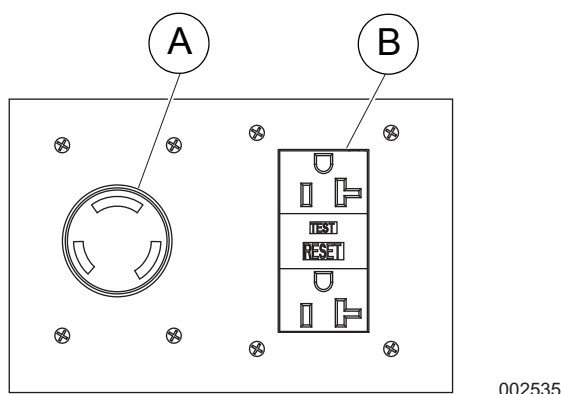

Figure 3-6. Convenience Outlets
See Figure 3-6. The unit is equipped with convenience outlets for powering accessories or tools from the generator. Power is supplied to the outlets any time the engine is running and the 240VAC outlet breaker is switched to the ON (I) position. Each outlet has an individual circuit breaker, located on the control box. Refer to Control Panel.
See **Figure 3-6**. The circuit breakers are labeled with the corresponding voltage for the outlet they protect. The standard outlet panel is equipped with the following outlets: